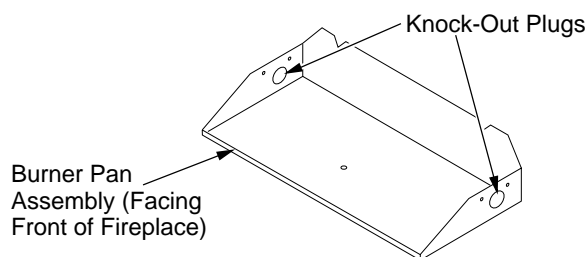

Figure 6 - Knock-Out Plug Locations
2. Using a hammer and screw driver, remove knockout plug from the side of the pan that corresponds to the gas line (see Figure 6).